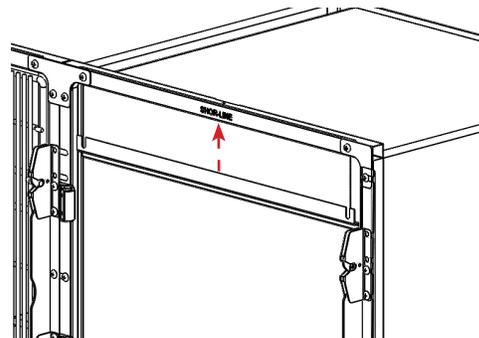

FIGURE 2.12 - Head Seal Installation
STEP 4: Align the slots on the head seal (top) with the hardware screws. Slide the head seal under the trim plates. Secure the head seal by tightening the top trim plate screws. See FIGURE 2.12